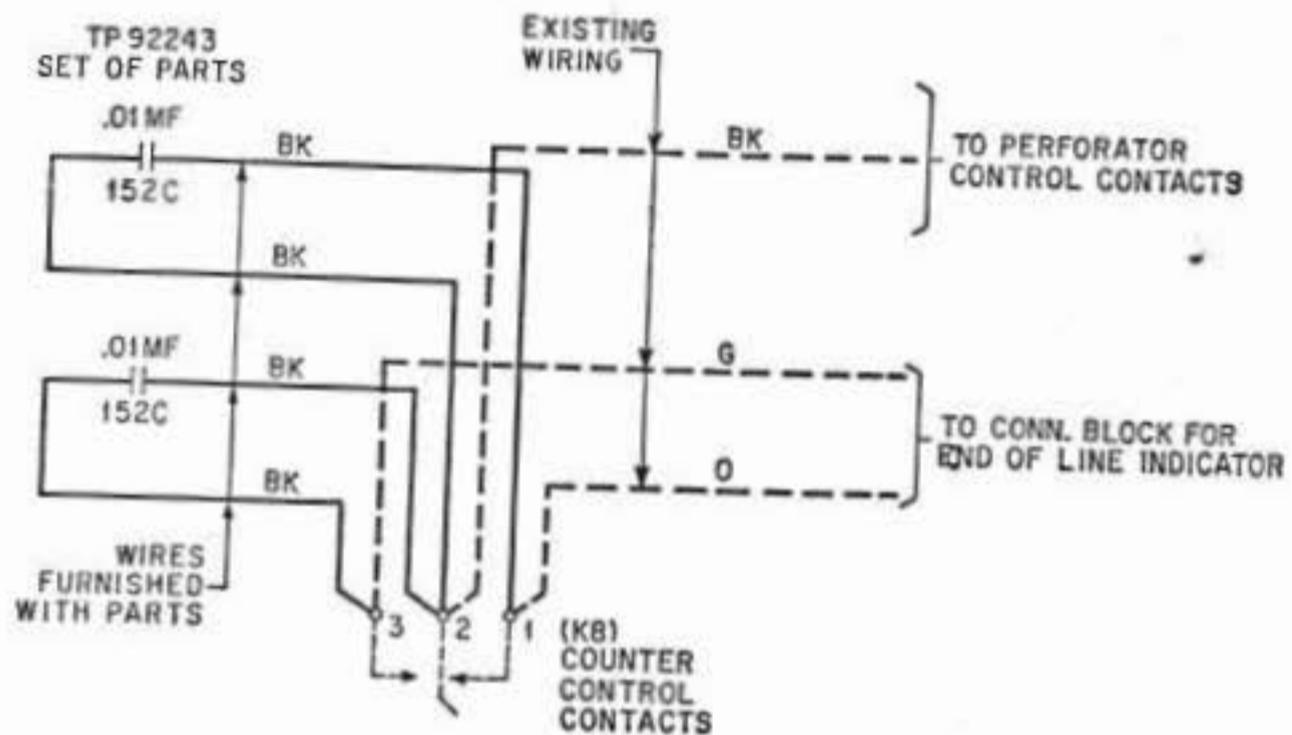

Fig. 1
2.02 Refer to Fig. 1 and connect the capacitors of the TP92243 set of parts as follows:
- (1) Cut each of the two capacitor leads which are equipped with terminals to a length just sufficient to allow slack for extreme adjustment of the counter control contacts and skin the ends of the leads.
- (2) Connect both of these leads to the middle terminal of the counter control contacts.
- (3) Cut the upper lead of the vertically mounted capacitor to a length just sufficient to allow the counter control contacts to be adjusted to their extreme position, skin the end and connect the lead to the left terminal of the counter control contacts.
- (4) Cut the front lead of the horizontally mounted capacitor to a length just sufficient to reach the right-hand terminal of the counter control contacts if the contact assembly were adjusted to its extreme position, skin the end and solder this lead to the right-hand terminal.
- (5) Check the connections to see that they are in accordance with Fig. 1.